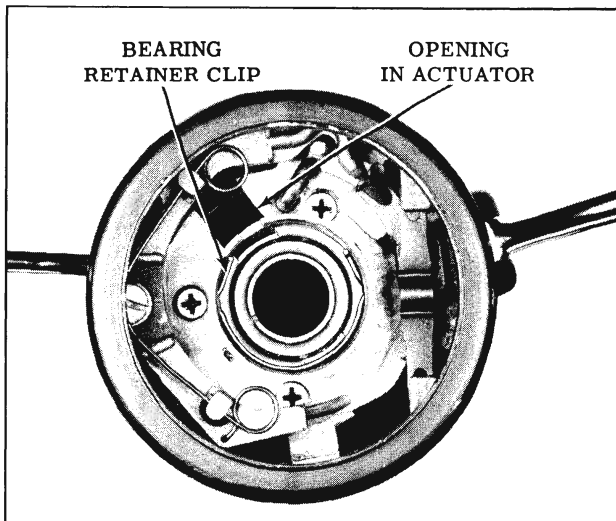

Fig. 4-302 Upper Bearing Retainer
21. Install upper bearing to actuator clip with opening aligned with slot in actuator to provide clearance for horn contact wire. (Fig. 4-302)